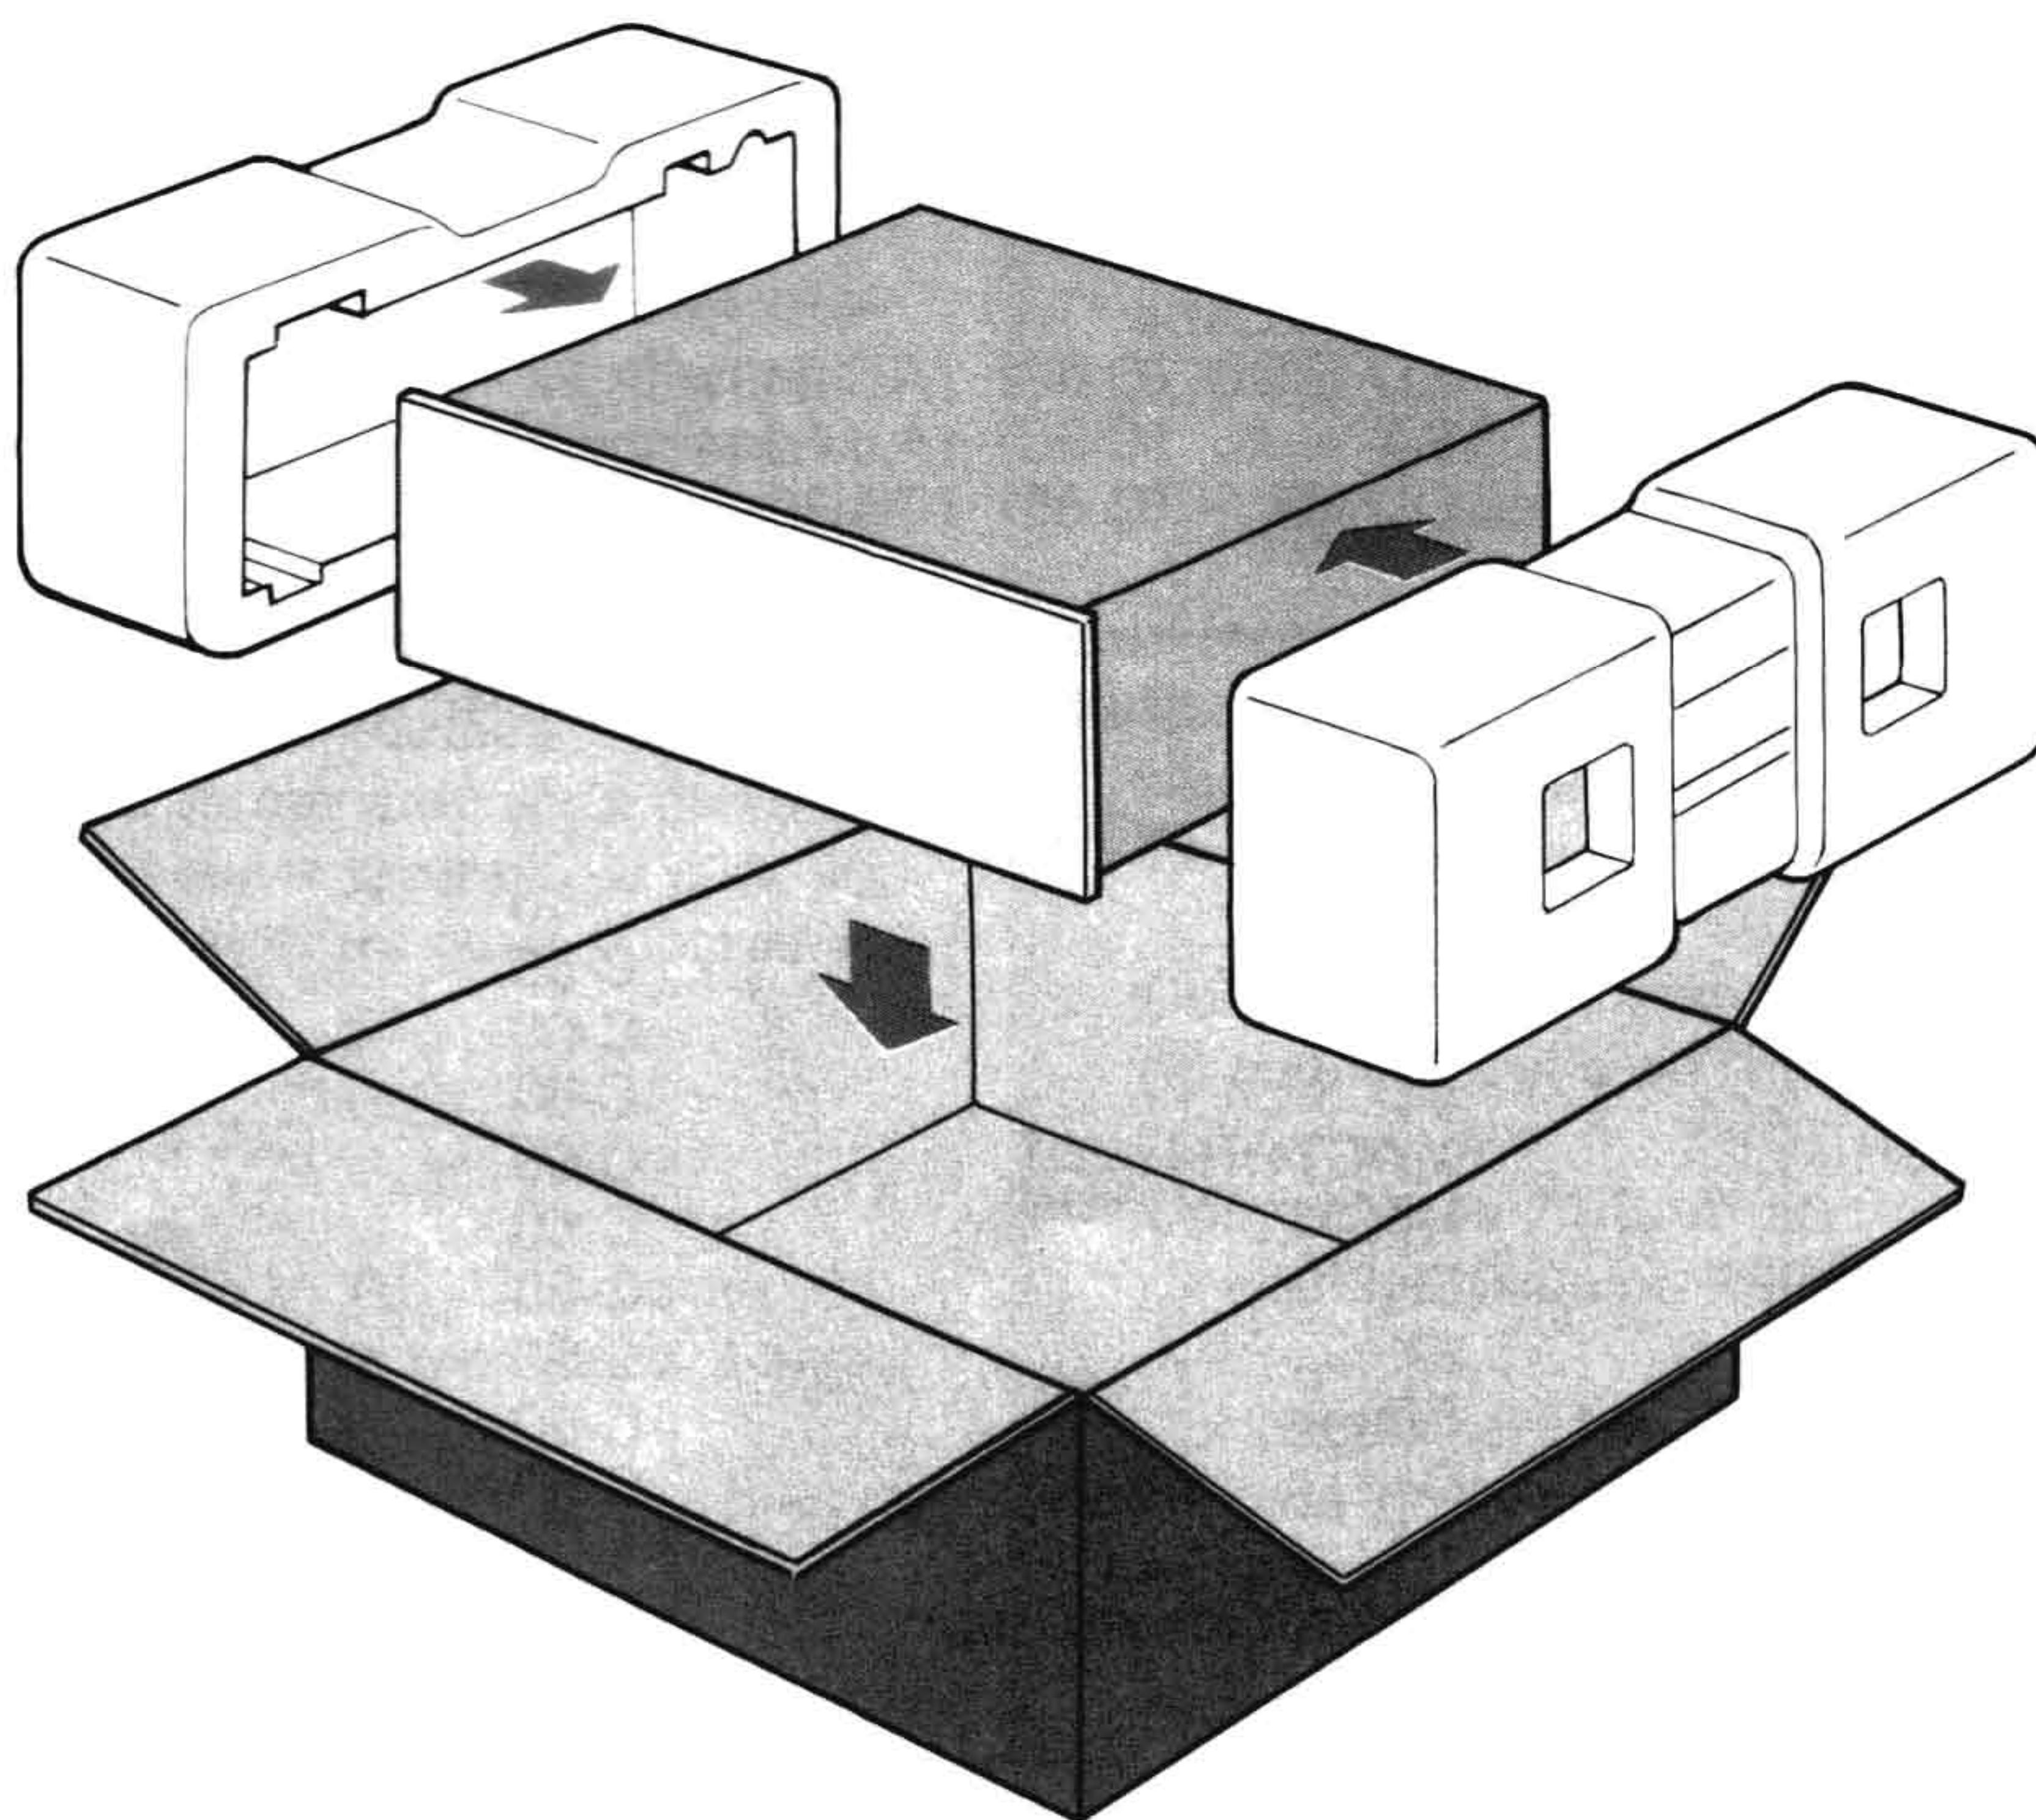

Figure 6. Packing Instructions
- b. Pack the unit carefully, using the original material as shown in Figure 6.